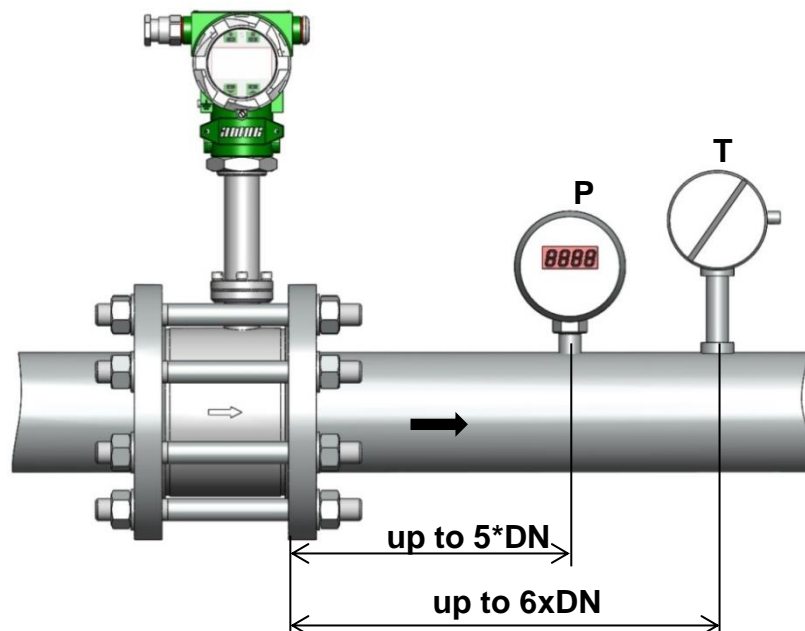

Fig. 2.3 - Installation scheme for full-bore flow meter, pressure and temperature gauges
2.1.8 If flow meter is used as part of the metering assembly, pressure and temperature gauges shall be installed downstream as shown in the fig. 2.3. It is allowed to install pressure gauge 5xDN before the flow meter.